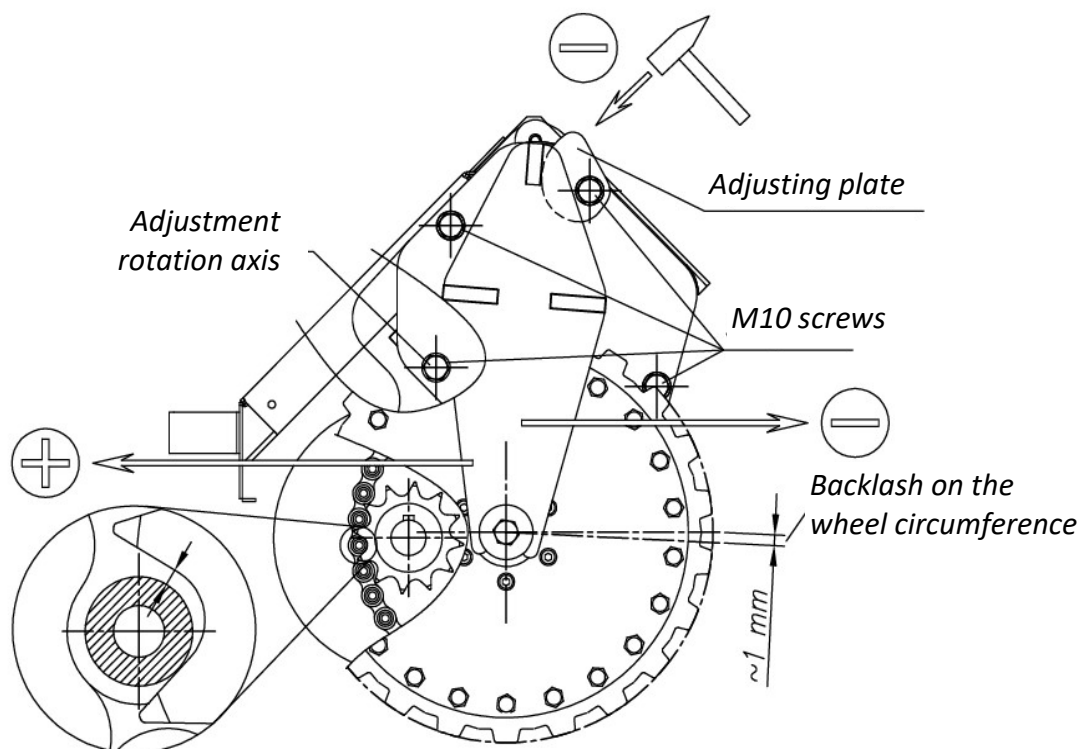

Figure 11. Adjustment of the drive of the running wheel of the PSWEX conveyor
- The driving wheel of the conveyor is equipped with the drive backlash adjustment. The conveyor is delivered with the play adjusted. Before the bodies are installed, check and adjust, if necessary, the drive backlash. To facilitate adjustments, perform this activity before connecting the screw body with the drive. Perform adjustments only when the screw is supported at its ends with bearings; the sole exception are PSWEX -5/6/7 conveyors, in which the screw is supported on a temporary transport bracket. Loosen 4 M10 screws fixing the wheel bracket. Reduce the backlash by hitting on a protruding adjusting plate. Check the backlash by turning the wheel (a full turn of the wheel). The correctly set wheel should turn freely, without any jams. In each wheel position, a slight backlash between a chain and a gear, of 1 mm should be noticeable (measured on the wheel circumference, Figure 11).